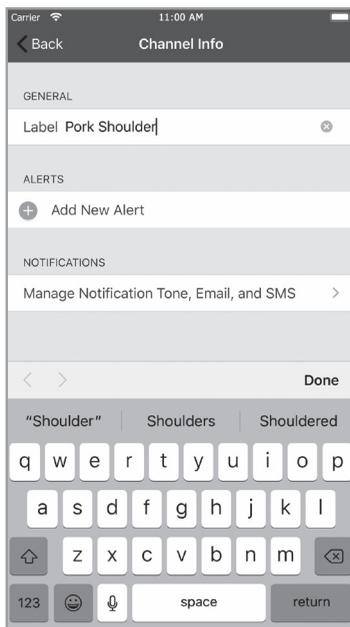

FIG 18
- The names of the two probe ports can be set according to what you're cooking. Tapping on the probe port in the grey banner will allow you to change its name (**FIG 18**). This name will also be used in the various charts throughout the app.
- An alert – in the form of an app alert, an SMS text message, or an email – can be set to let you know when one of the meat probes are at a certain temp. Simply tap on the temperature shown for the probe in the grey banner, tapping “Add New Alert,” then “Set Up Alert” and set up your parameters (**FIG 18, 19**).